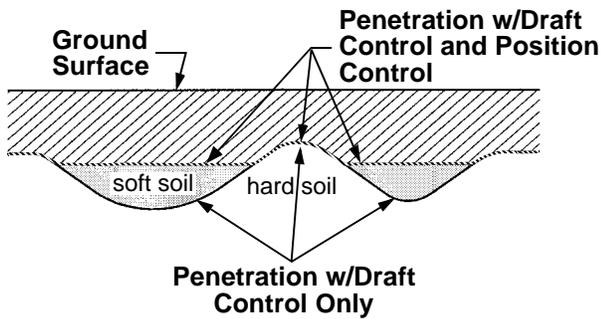

Figure 32
- Use a combination of the two levers to set the height of the implement while also controlling the drag on the tractor. Refer to Figure 32.